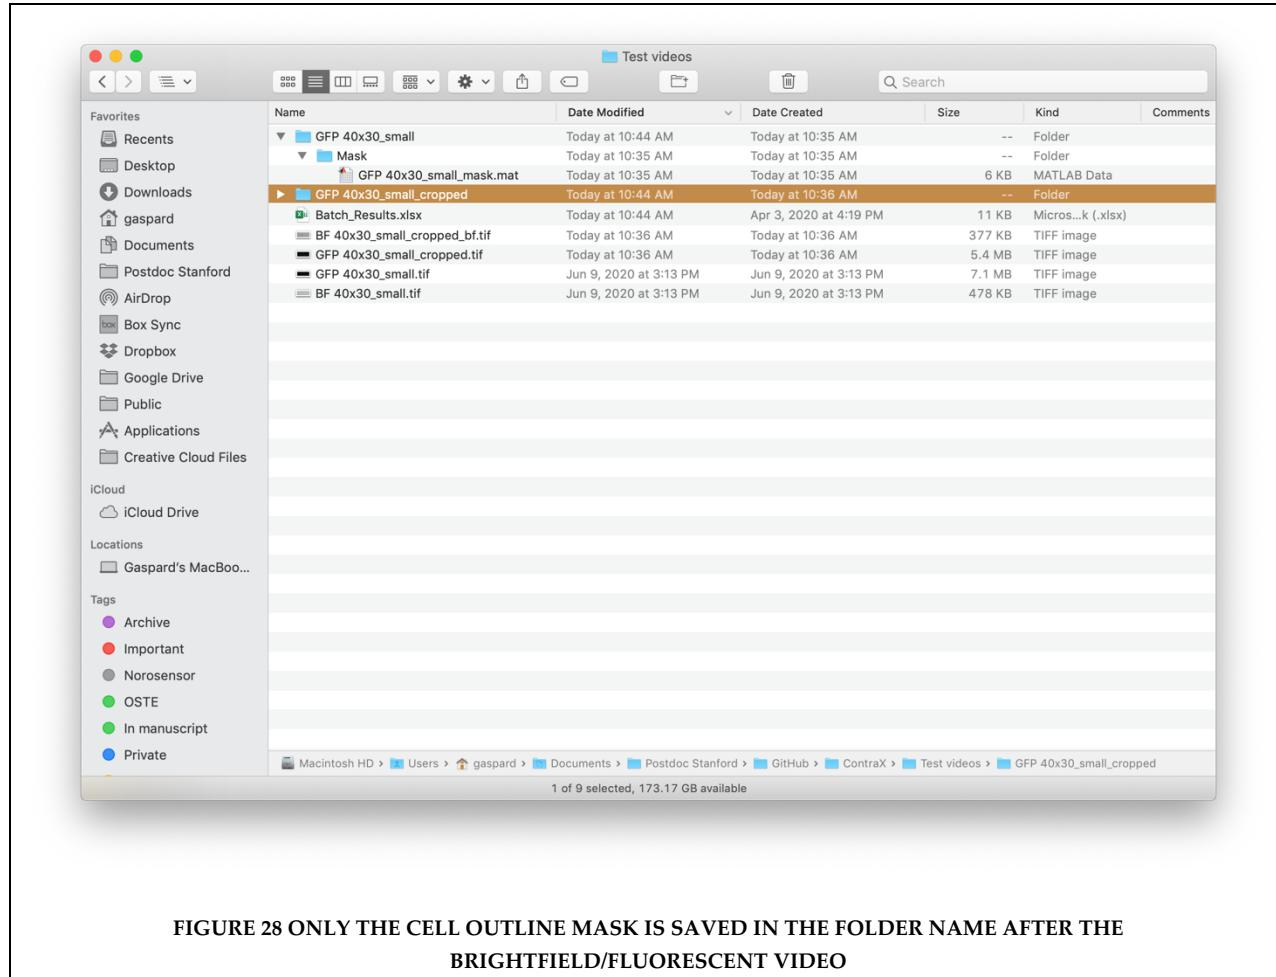

FIGURE 28 ONLY THE CELL OUTLINE MASK IS SAVED IN THE FOLDER NAME AFTER THE BRIGHTFIELD/FLUORESCENT VIDEO
- In the folder for the brightfield/fluorescent video/image, the cell outline mask only is saved (Figure 28).